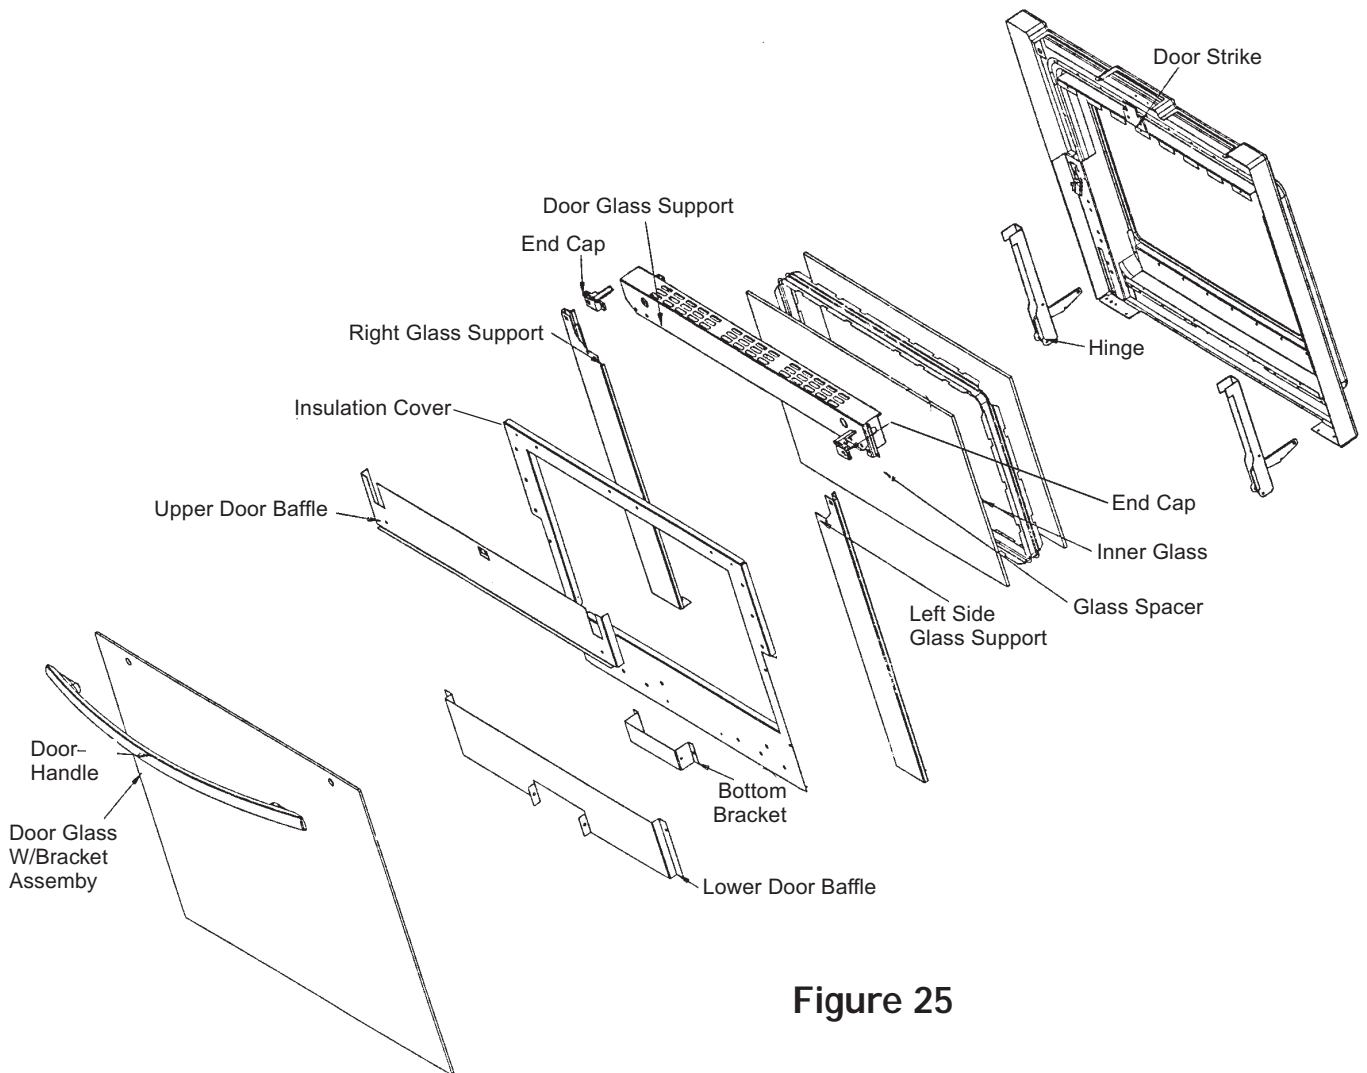

Figure 25
2. Refer to Figure 25 as you remove the door components. The illustration shows the order of removal.